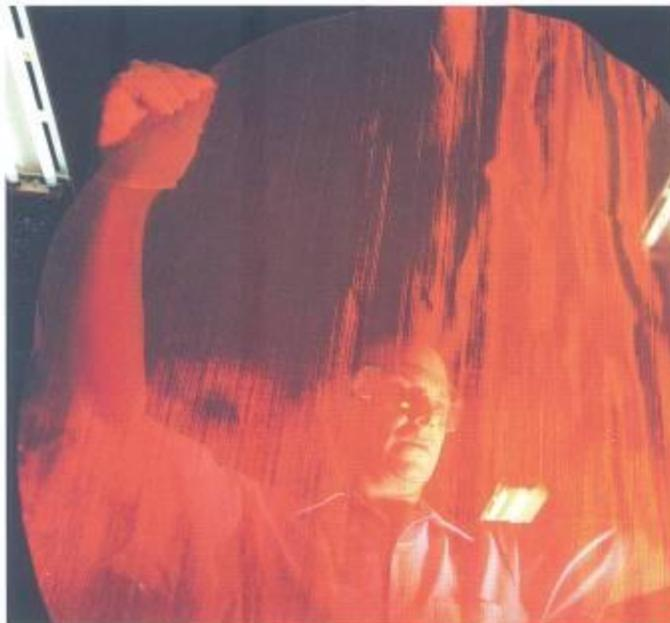

Figure 15.7 Platinum–rhodium gauze is used as a catalyst in the production of nitric acid.
1. A mixture of air and ammonia is heated to about 230 °C and is passed through a metal gauze made of platinum (90%) and rhodium (10%) (Figure 15.7). The reaction produces a lot of heat energy. This energy is used to keep the reaction vessel temperature at around 800°C. The reaction produces nitrogen monoxide (NO) and water.